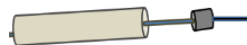

Figure 4.
3. Insert the temperature probe through the Vienna sausage, lengthwise (see Fig. 4). Submerge the Vienna sausage and probe in the ice slush. If the ice slush melts into ice water during the experiment, remove some water and refill with ice to recreate the slush. Leave it there until the sausage is at constant temperature (the LabQuest is displaying the sausage's temperature). Monitor the time – you want it to be in the ice slush for at least 12 minutes to achieve a temperature near that of the ice bath. Meanwhile, continue with the next steps.